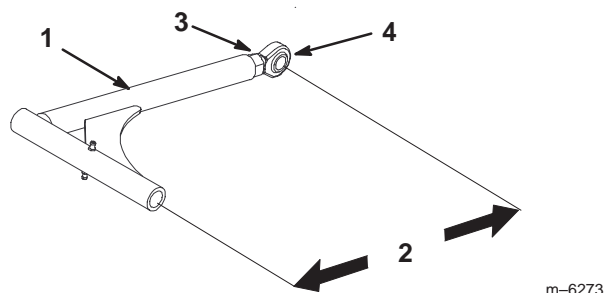

Figure 69
11. If the fixed idler contacts the end of the adjustment slot and more belt tension is required, a small change to lengthen the push arms can be made (Fig. 69).
12. To adjust push arms, loosen jam nut and rotate ball joint counterclockwise, one turn at a time. Adjust each side the same amount (Fig. 69).